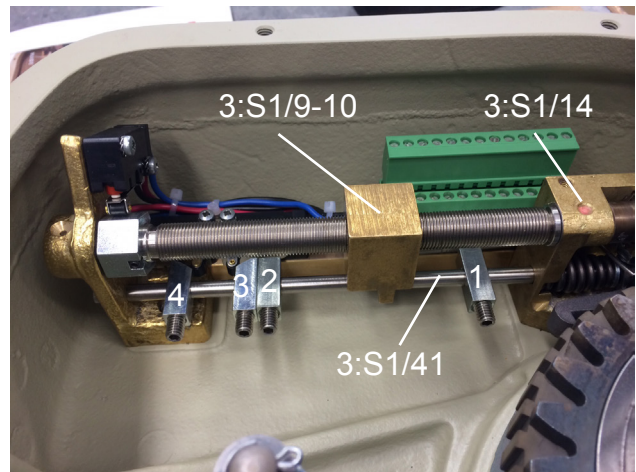

Figure 3
The latch (3:S1/26) is connected to the slide rod (3:S1/41), figure 3. This slide rod is sliding in an axial direction by the slide-block (3:S1/9-10), figure 3, in the last stage of the valve operation.
8. Open the valve entirely, and check that the slide block can move freely within the whole range, figure 3 shows the slide-block (3:S1/9-10) in open valve position.